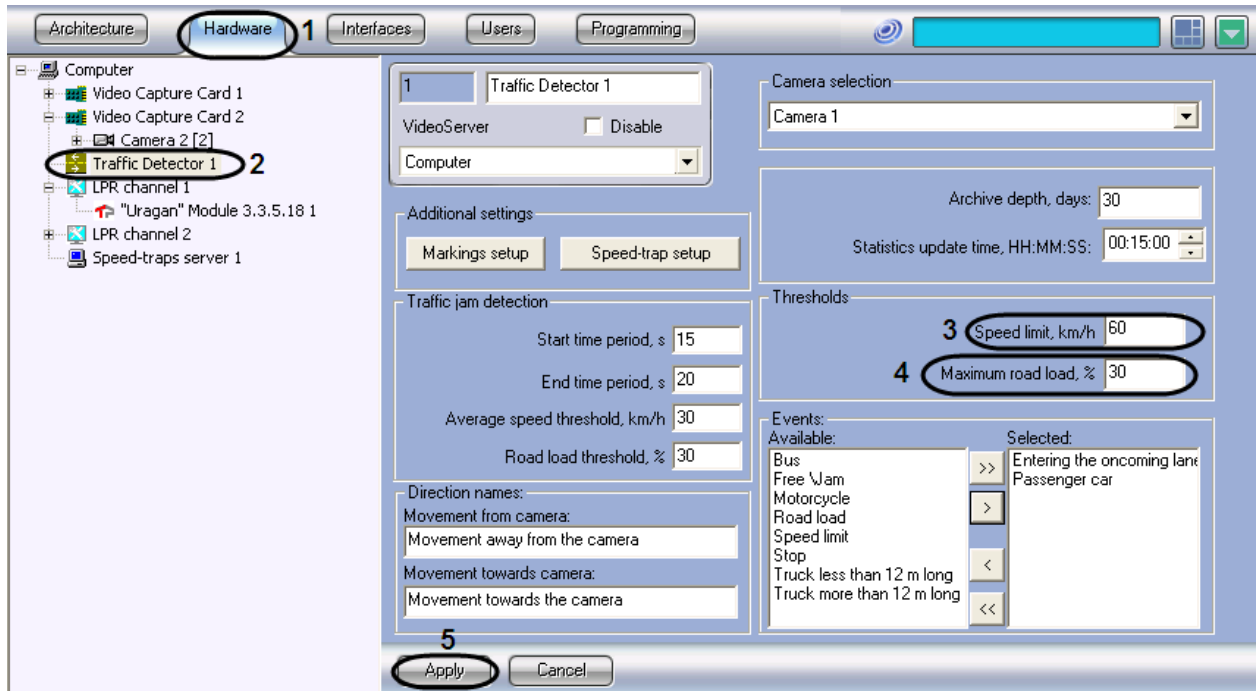

Fig. 7.4-19 Setting up the traffic limits
2. In the object tree on the left side of the Hardware tab, select the Traffic Detector object representing the Traffic Detector module to be set up. The settings panel of the selected object will open on the right side of the window (see Fig. 7.4-19).